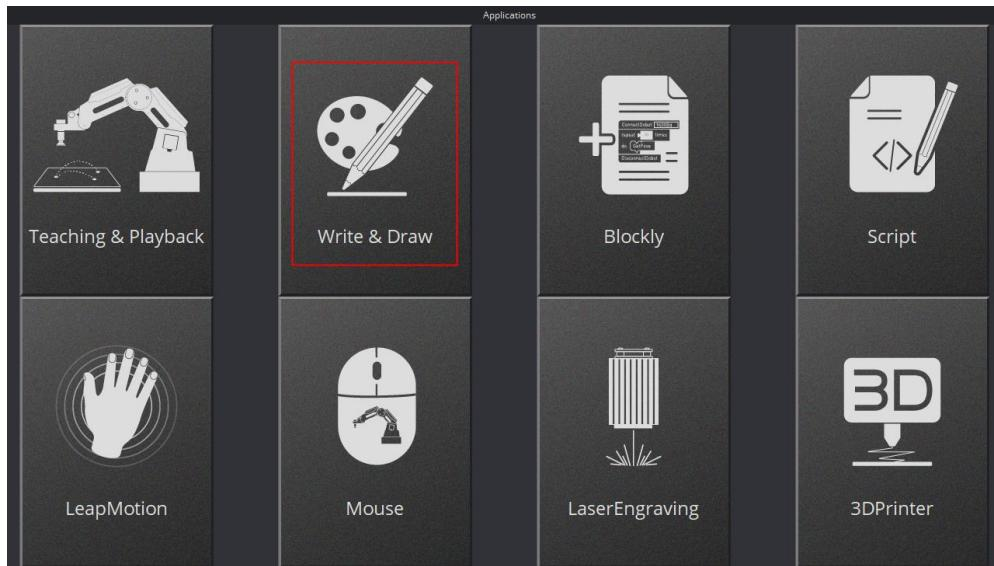

Figure 5.37 Click Write & Draw
**Step 1** Click **Write & Draw** on the **DobotStudio** page, as shown in Figure 5.37.